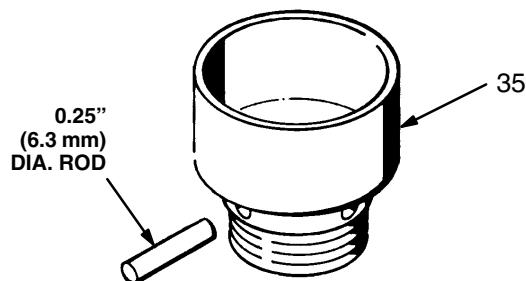

Fig. 3
Keep the packing nut/wet-cup 1/2 filled with Graco Throat Seal Liquid (TSL) or compatible solvent to help prolong packing life. Adjust the packing nut (35) weekly so it is just tight enough to prevent leakage; do not overtighten. **Relieve the pressure** before adjusting the packing nut. Then use a spanner wrench or a 0.25" (6.3 mm) diameter rod to tighten the nut. See Fig. 3.